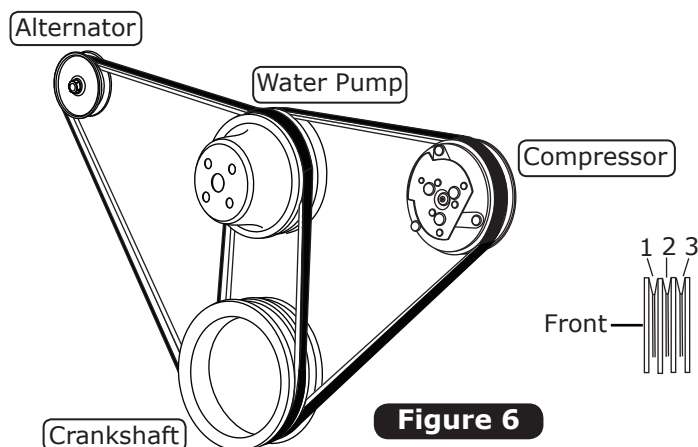

Figure 6
1. Route belts as shown in Figure 6, below. Vintage Air recommends using only Dayco, Gates or Goodyear brand reinforced V-belts with this compressor. Any use of lesser-quality belts may cause the compressor to perform improperly. A compressor belt length of 58" to 59" is recommended. **NOTE: This can vary with the diameter of the water pump and crankshaft pulleys.**